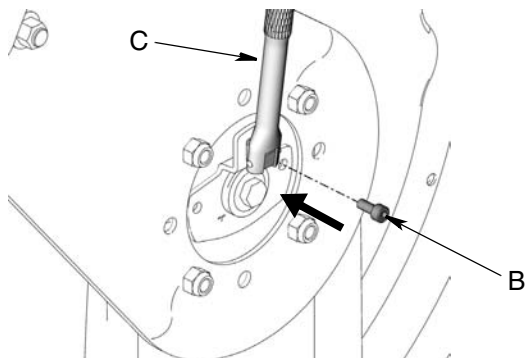

FIG. 27
5. Leave ratchet (C) in place. Replace one screw (B) (FIG. 27).